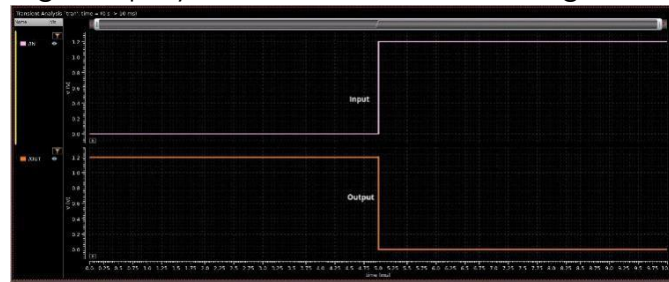

Figure 13: VIVA window
14. Next, **<click the green play button to the right of the window>**. The output plot after clicking the green play button should resemble Figure 13.
15. Alternatively, you may skip the paragraph above, and just **<click the green play button to the right of the window>** (or click on **Simulation→Netlist and Run** from the maestro menu). After simulation is complete, you may click on the maestro menu item **Results→Direct Plot→Transient Signal**, then select the wires on the schematic window, and press ESC. You will see the same plot window in Figure 13.